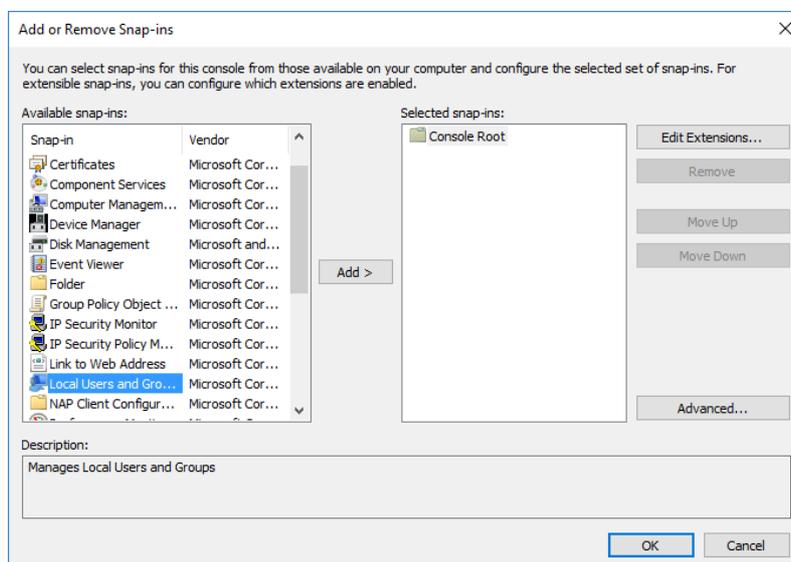

Figure 2-4. Adding Local Users and Groups
- b. Select **Local Users and Groups**, and then click **Add**. See Figure 2-4.